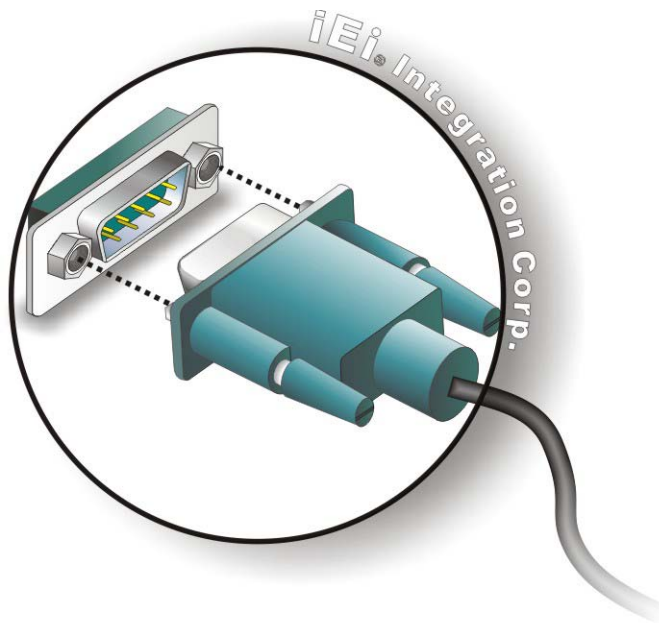

Figure 3-19: DB-9 Serial Port Connection
Step 2: Insert the serial connector. Insert the DB-9 connector of a serial device into the DB-9 connector on the bottom panel. See **Figure 3-19**.